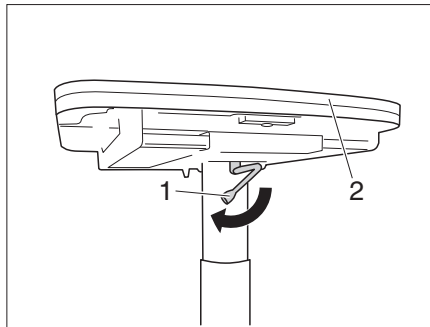

Fig. 102 Lowering the table
- Swivel the catch lever (Fig. 102,1) to the left. The lock is open.
- Press the table-top (Fig. 102,2) downwards in the middle and keep it pressed.
- Swivel the catch lever (Fig. 102,2) to the right. The lift-off table is locked.